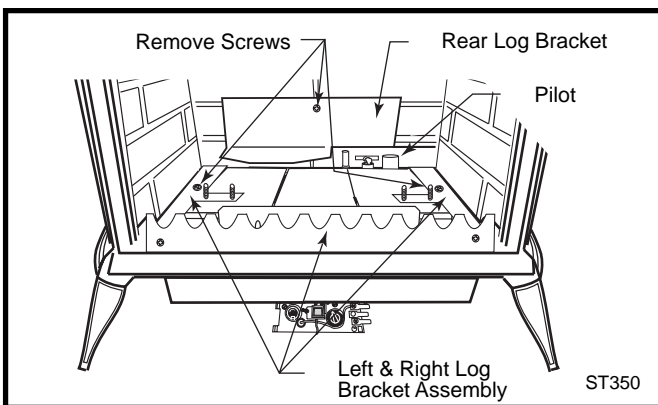

Fig. 38 Remove rear log bracket and left and right log bracket assembly.
5. Remove the rear log bracket by unfastening the screw. (Fig. 38)
6. Remove the right and left log bracket assembly by unfastening the two screws which hold the burner in place. (Fig. 38)